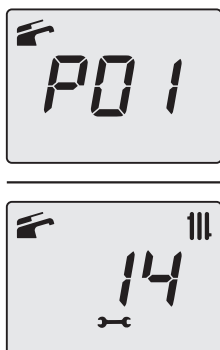

Figure 9.32
- Press the 14 key for 1 second (Figure 9.28) to enter the selected parameter. The display will show the following (**13**=M300V.2025 SM, **14**=M300V.2530 SM or **15**=M300V.3035 SM) (Figure 9.32).